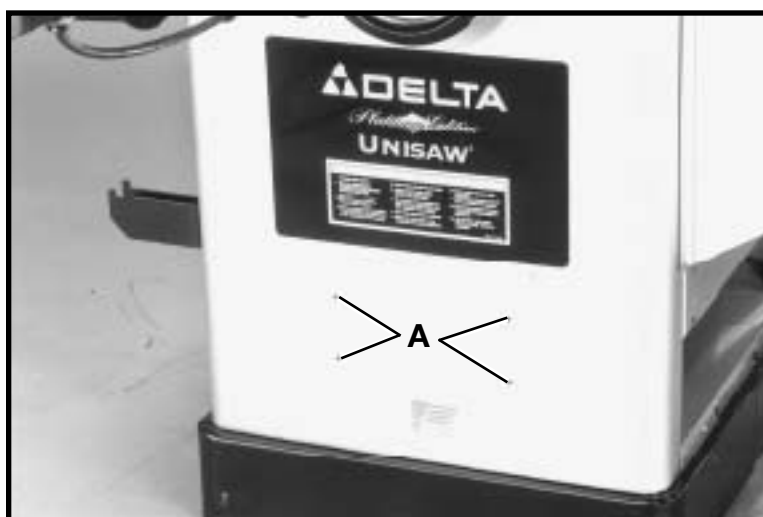

Fig. 90
1. The saw has four pre-drilled holes (A) Fig. 90, located in the front of the cabinet to attach the engraved nameplate.